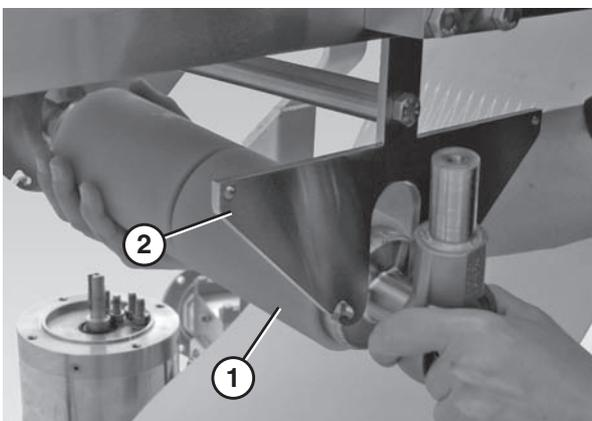

Figure 65
13. Lower the end of the drive shaft spindle (**Figure 65, item 1**) until it is clear of the side plate (**Figure 65, item 2**) and remove it.